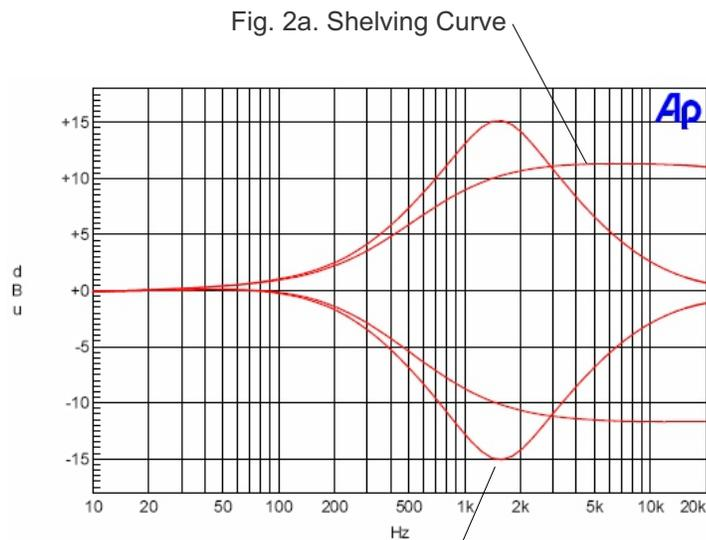

Fig. 2b. Peak/Dip Curve
**20. Peak/Shelf Switch** This switch changes the high frequency band from a peak/dip curve (as shown in Figure 2a) to shelving curve (as shown in Figure 2b).